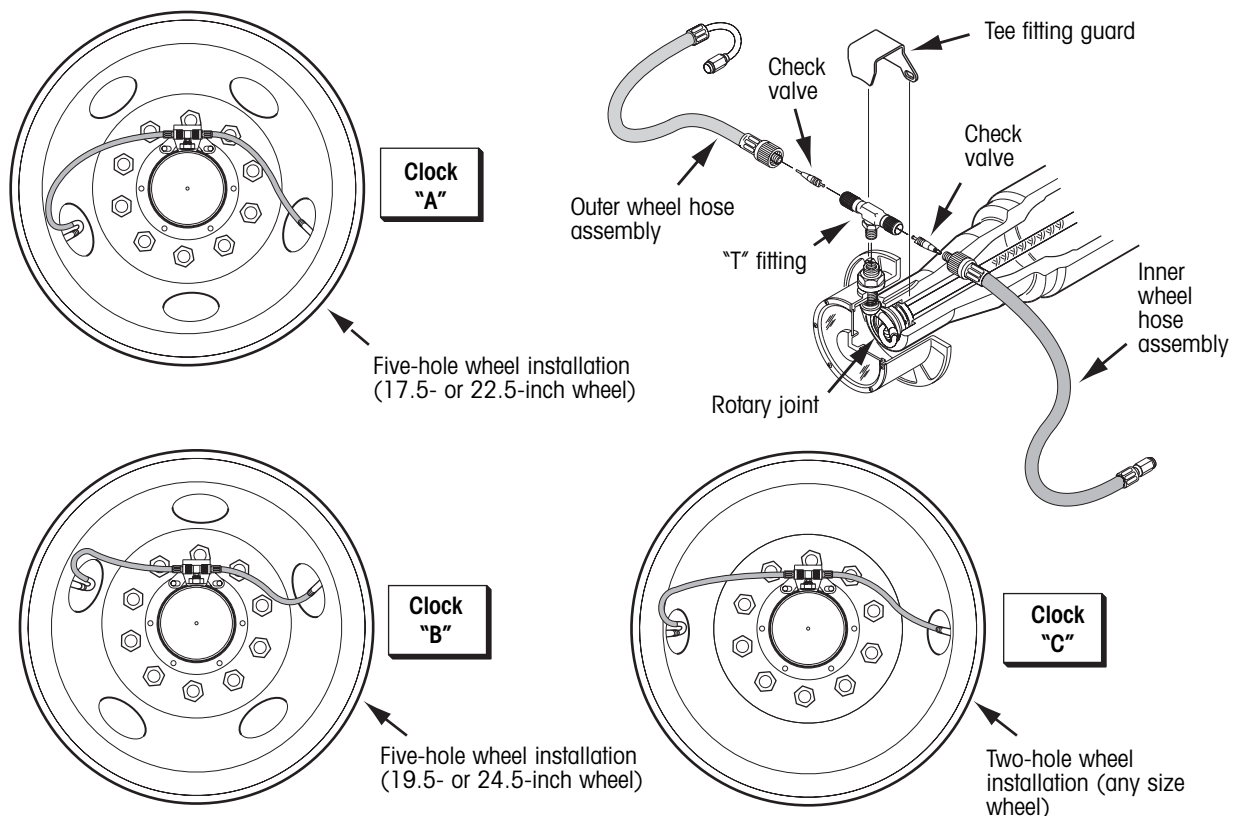

Figure 34. Tire removal and installation
2. Disconnect the tire hoses at the tee on the hubcap (figure 34).
4. Observe and record the orientation of the wheel to the hub before removal of the wheel (clock A, B, or C. Refer to figure 34).
5. Remove and reinstall the wheel. Take care not to damage the hubcap fitting. Make sure the wheel is properly oriented to the hub as indicated in figure 34.